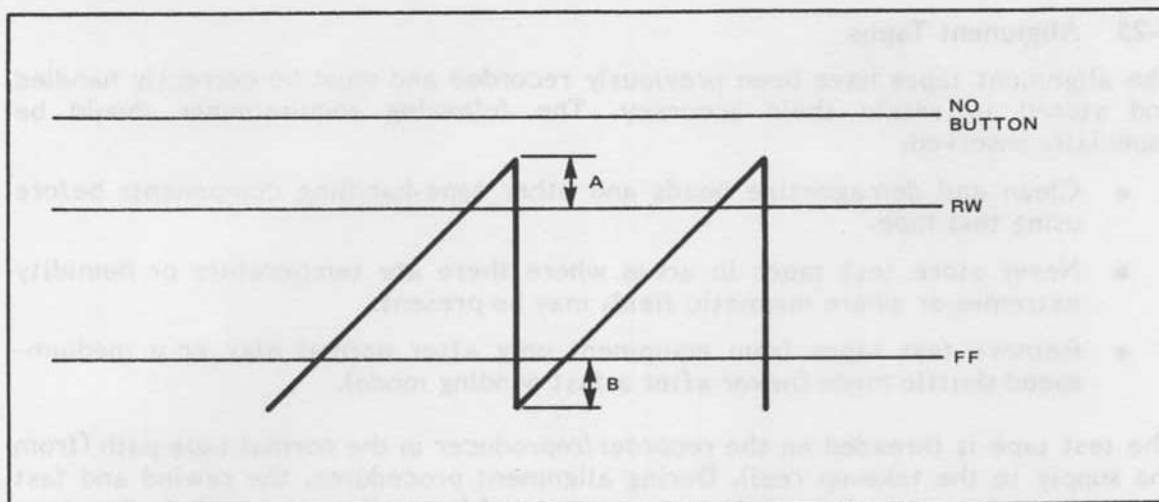

Figure 5-15. Shuttle Bar Adjustment — Waveform
- STEP 1 Connect dual trace scope to TP10 and TP11 on Capstan Servo PWA. Set scope for identical gain and ground on the two traces. Adjust R48 for wave pattern in Figure 5-15 when fast forward and rewind buttons are actuated. Set A equal to B. Verify that straight line does not touch ramp when neither button is actuated.